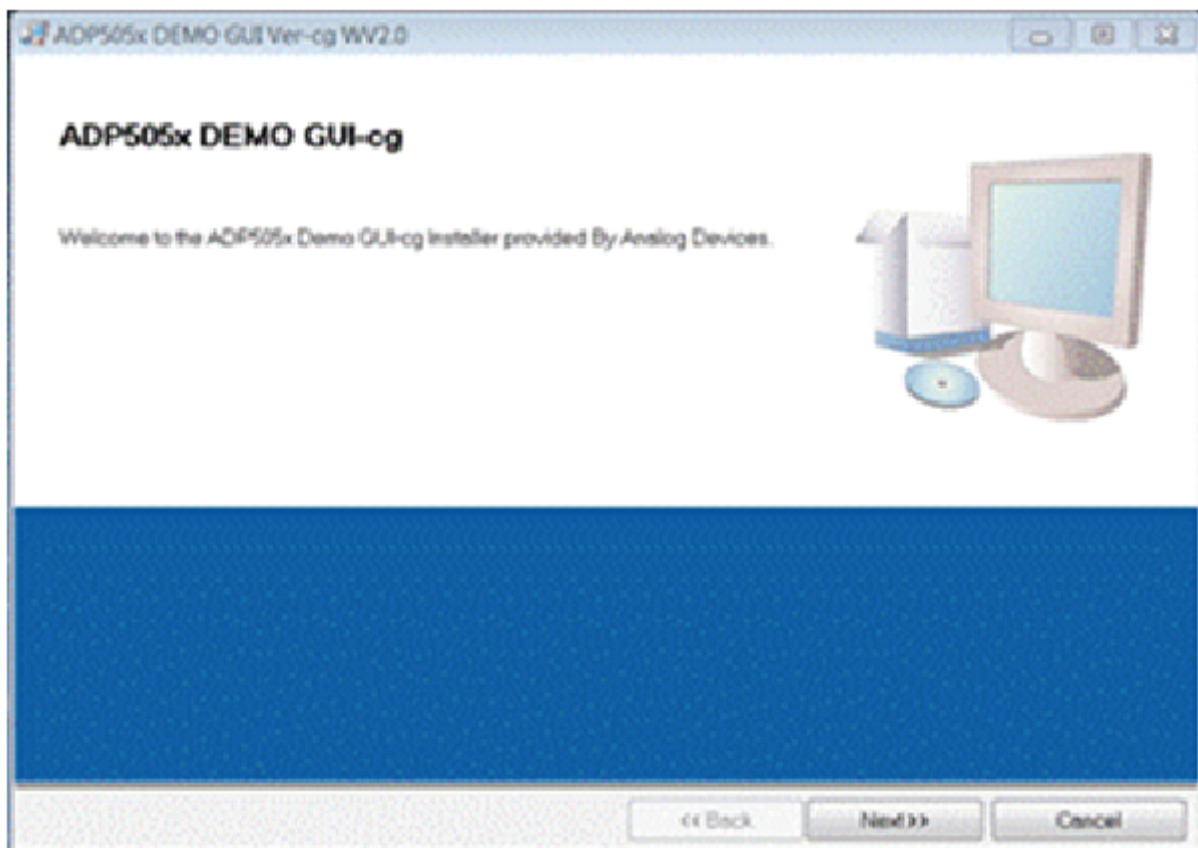

Figure 2. ADP5050 Evaluation Software Setup
1. Launch the **Setup.exe** file. When the dialog box shown in Figure 2 appears, click **Next** to continue.